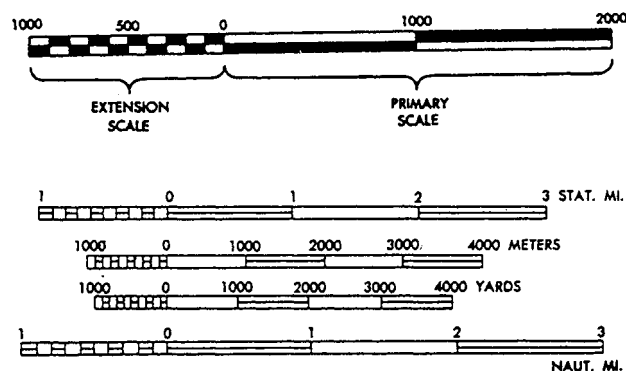

Figure 5-19.—Graphic scale.
The GRAPHIC SCALE that is printed on your map is especially made for that map and should not be used on any other map. Figure 5-19 shows a typical graphic scale. To the right of the zero (0), the scale is marked in full units of measure and is called the PRIMARY SCALE. The part to the left is zero (0) and is divided into tenths of a unit and is called the EXTENSION SCALE. Most maps have three or more graphic scales, each of which indicates distance in a different unit of measure. To determine the straight-line distance between two points on a map, use the following steps: